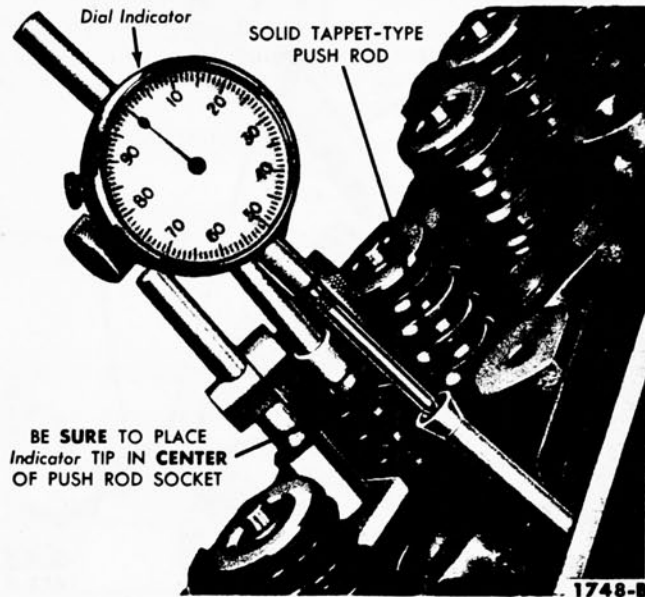

FIG. 1—Camshaft Lobe Lift—Typical
2. Make sure the push rod is in the lifter push rod cup, then install a dial indicator in such a manner as to have the actuating point of the indicator in the push rod socket and in the same plane as the push rod movement (Fig. 1).